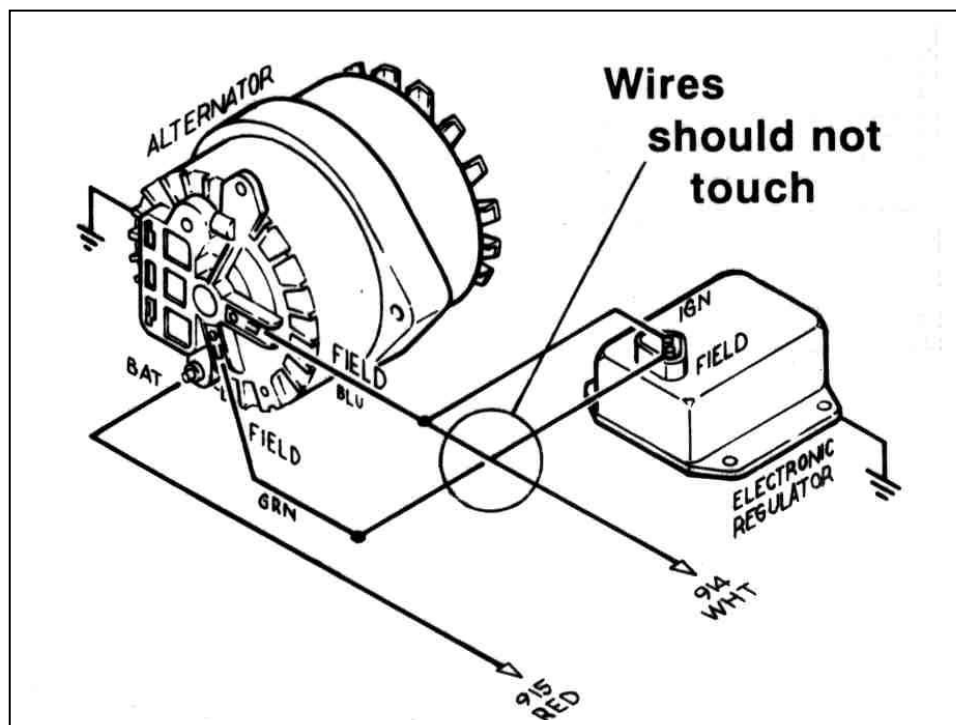

Figure 9-1A Mopar Alternator
Note: Your Alternator may not appear exactly as represented in **Figure 9-1A**. The circuits are wired the same way, though.
- 9.1.1** Mopar uses one of two kinds of voltage regulators: An electronic regulator and a mechanical one. The electronic voltage regulator is represented in **Figure 9-1A**. It does not matter how the two terminals are connected, so long as they are BOTH connected. The mechanical regulator has terminals marked "F" (Field) and "I" (Ignition). In contrast to the electronic regulator, it DOES make a difference how the mechanical regulator is connected.
- 9.1.2** Connect ENGINE SECTION wire #914 (wht) to the Alternator Field (F) terminal as shown in **Figure 9-1A**. Connect ENGINE SECTION wire #915 (red) to the Alternator Output lug (Bat).
- 9.1.4** Connect a 14-gauge wire from the other Alternator Field terminal (as shown in **Figure 9-1A**) to the second terminal of the ELECTRONIC Voltage Regulator OR terminal (F) of the MECHANICAL Voltage Regulator. On existing Mopar harnesses, this would be a green wire.